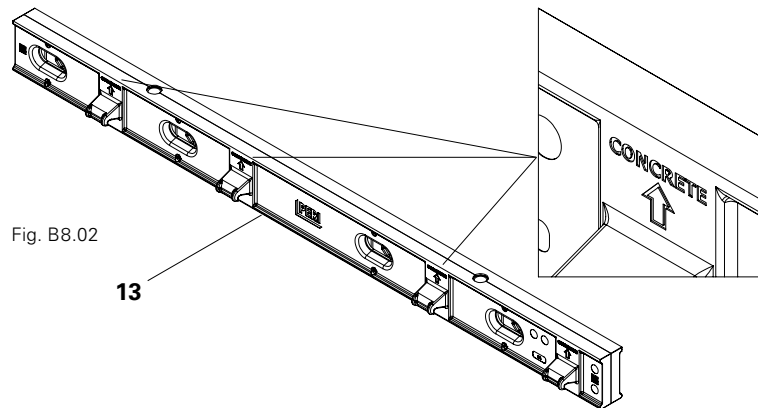

Fig. B8.02
With DWC wall thickness compensator (13). (Fig. B8.02)
- mount the DUO couplers (21) as shown in the arrangement.
The filler support (16) is equipped with teeth that grip into the connector pockets (10.2) of the panel. The teeth must point away from the concrete (10.7), see DWC wall thickness compensator. (Fig. B8.02 + Fig. B8.03)